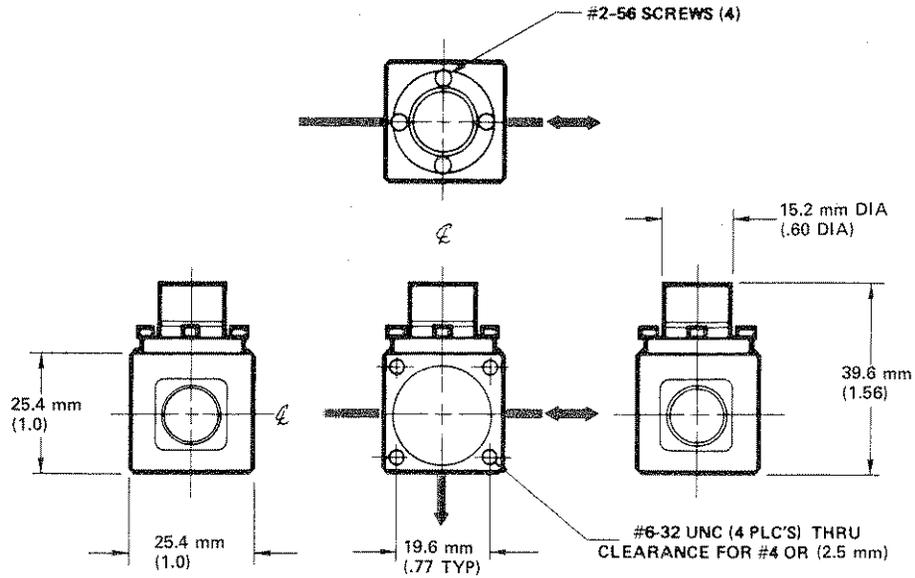

Figure 2-21. 10705A Single Beam Interferometer Specifications
- 10705A Single Beam Interferometer, see *Figure 2-21*.